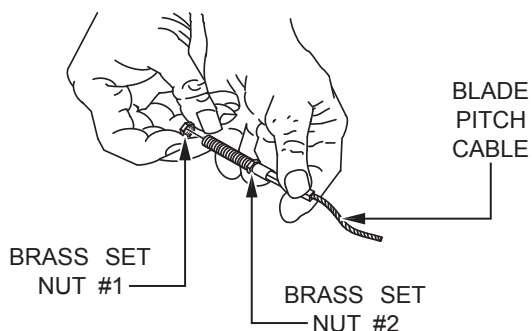

Figure 13. Blade Pitch Cable
- Remove brass set nut #1 from the end of the blade pitch cable (Figure 13).
- Thread brass set nut #2 as far as possible towards the blade pitch cable (Figure 13).